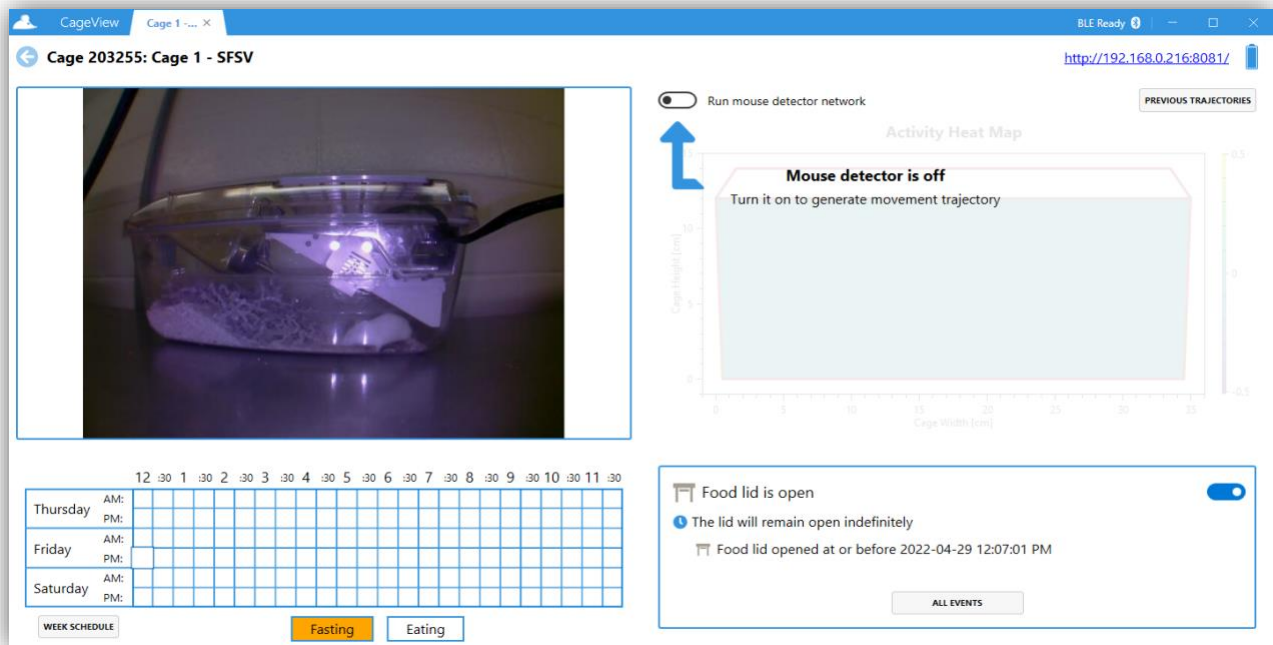

Figure 15. Opened BLE CageView
5.1.11. Click on any CageView item, open the corresponding cage, and initiate the connection, as shown in **Figure 15**.